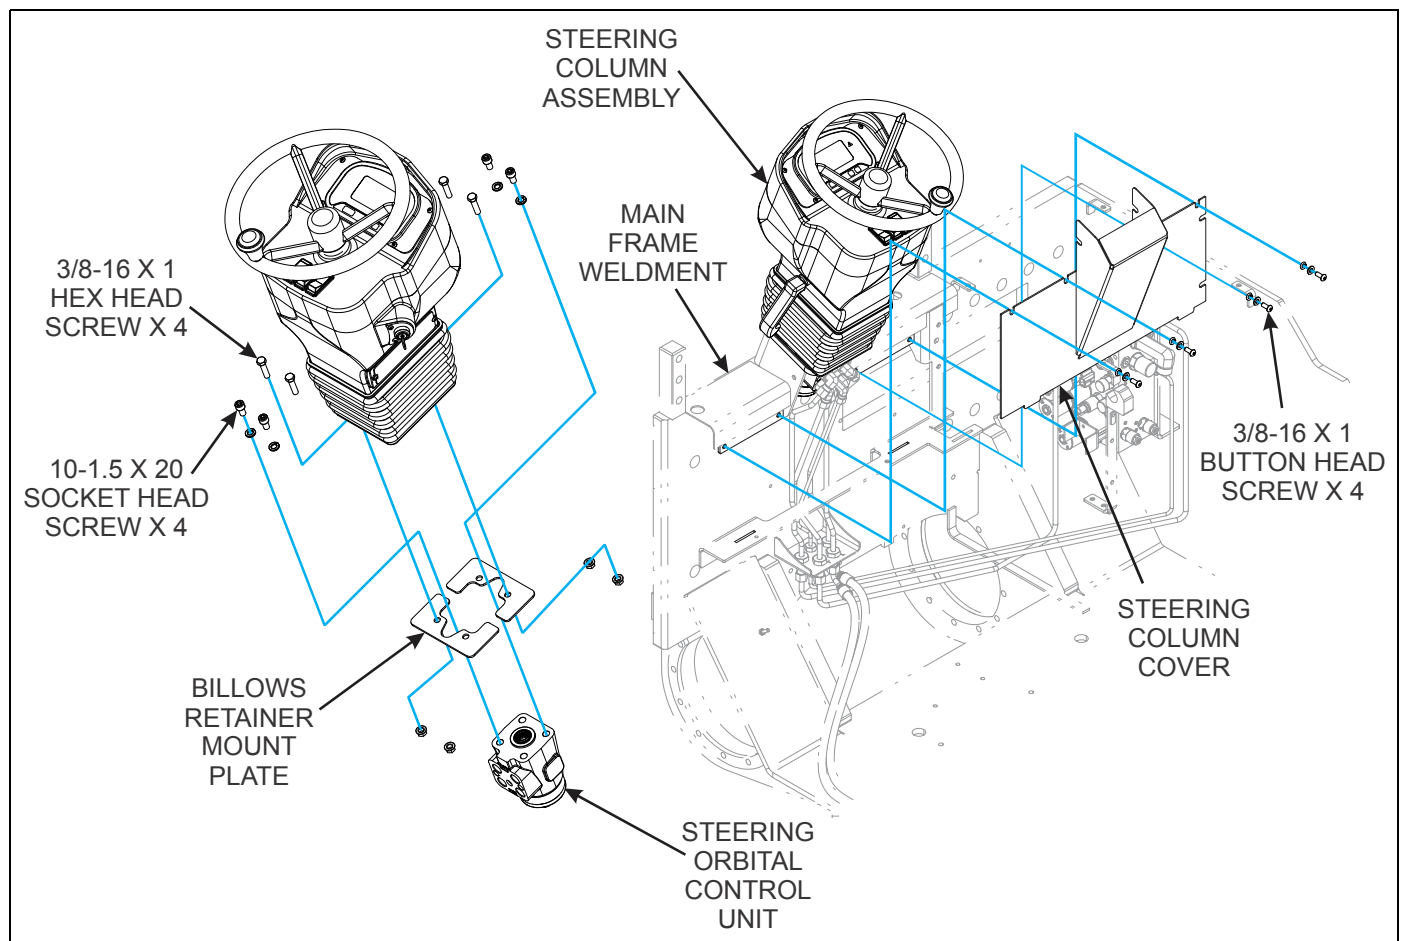

Figure 3-41: Steering Column Installation
2. Remove the lower dash cover weldment (See Figure 3-41).
5. Also pry (up) the bellows (rubber boot) free of the bellows retainer plate. This exposes the mounting plate for the steering column and the orbital control unit (See Figure 3-41).
6. Remove the four bolts and hardware securing the orbital control unit to the steering column (See Figure 3-41).